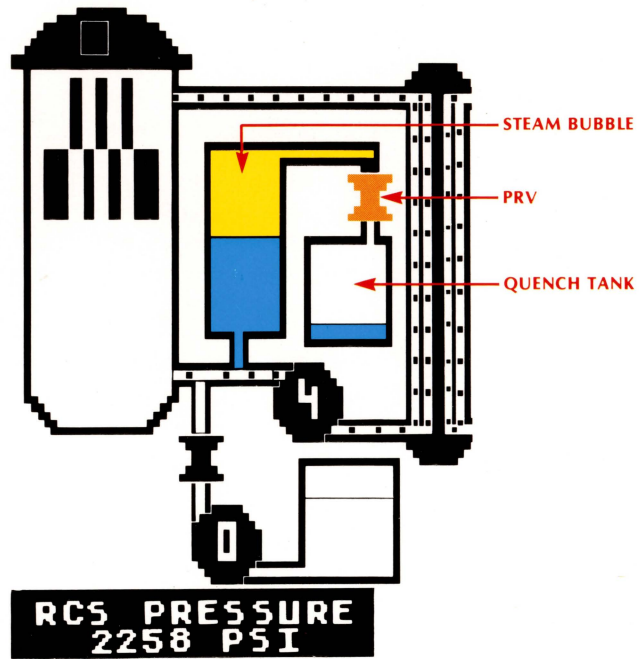

Figure 5. The Pressurizer
**Pressurizer.** The pressurizer (Figure 5) regulates the RCS pressure by dampening pressure transients (sudden increases in pressure) and keeping the pressure within normal limits (2200 to 2300 psi). When pressure is normal, the pressurizer contains half water and half steam bubble. The steam bubble acts like a “cushion” against pressure transients. In the simulation, the color yellow represents steam. You will learn more about the pressurizer when you study Thermodynamics 1A in Section 6.